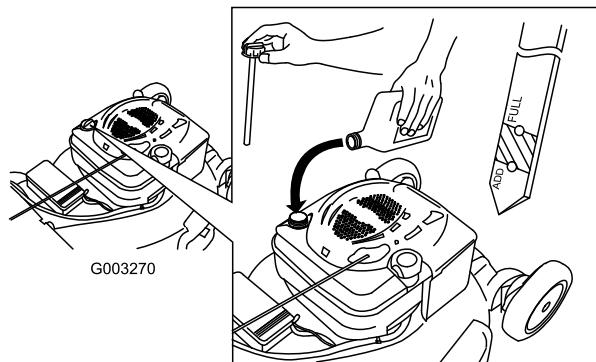

Figure 39
4. Slowly pour oil into the oil fill tube until the oil level reaches the Full line on the dipstick (Figure 39). **Do not overfill.** (Max. fill: 20 oz. (0.59 l), type: SAE 30W detergent oil with an API service classification of SF, SG, SH, SJ, SL, or higher.)